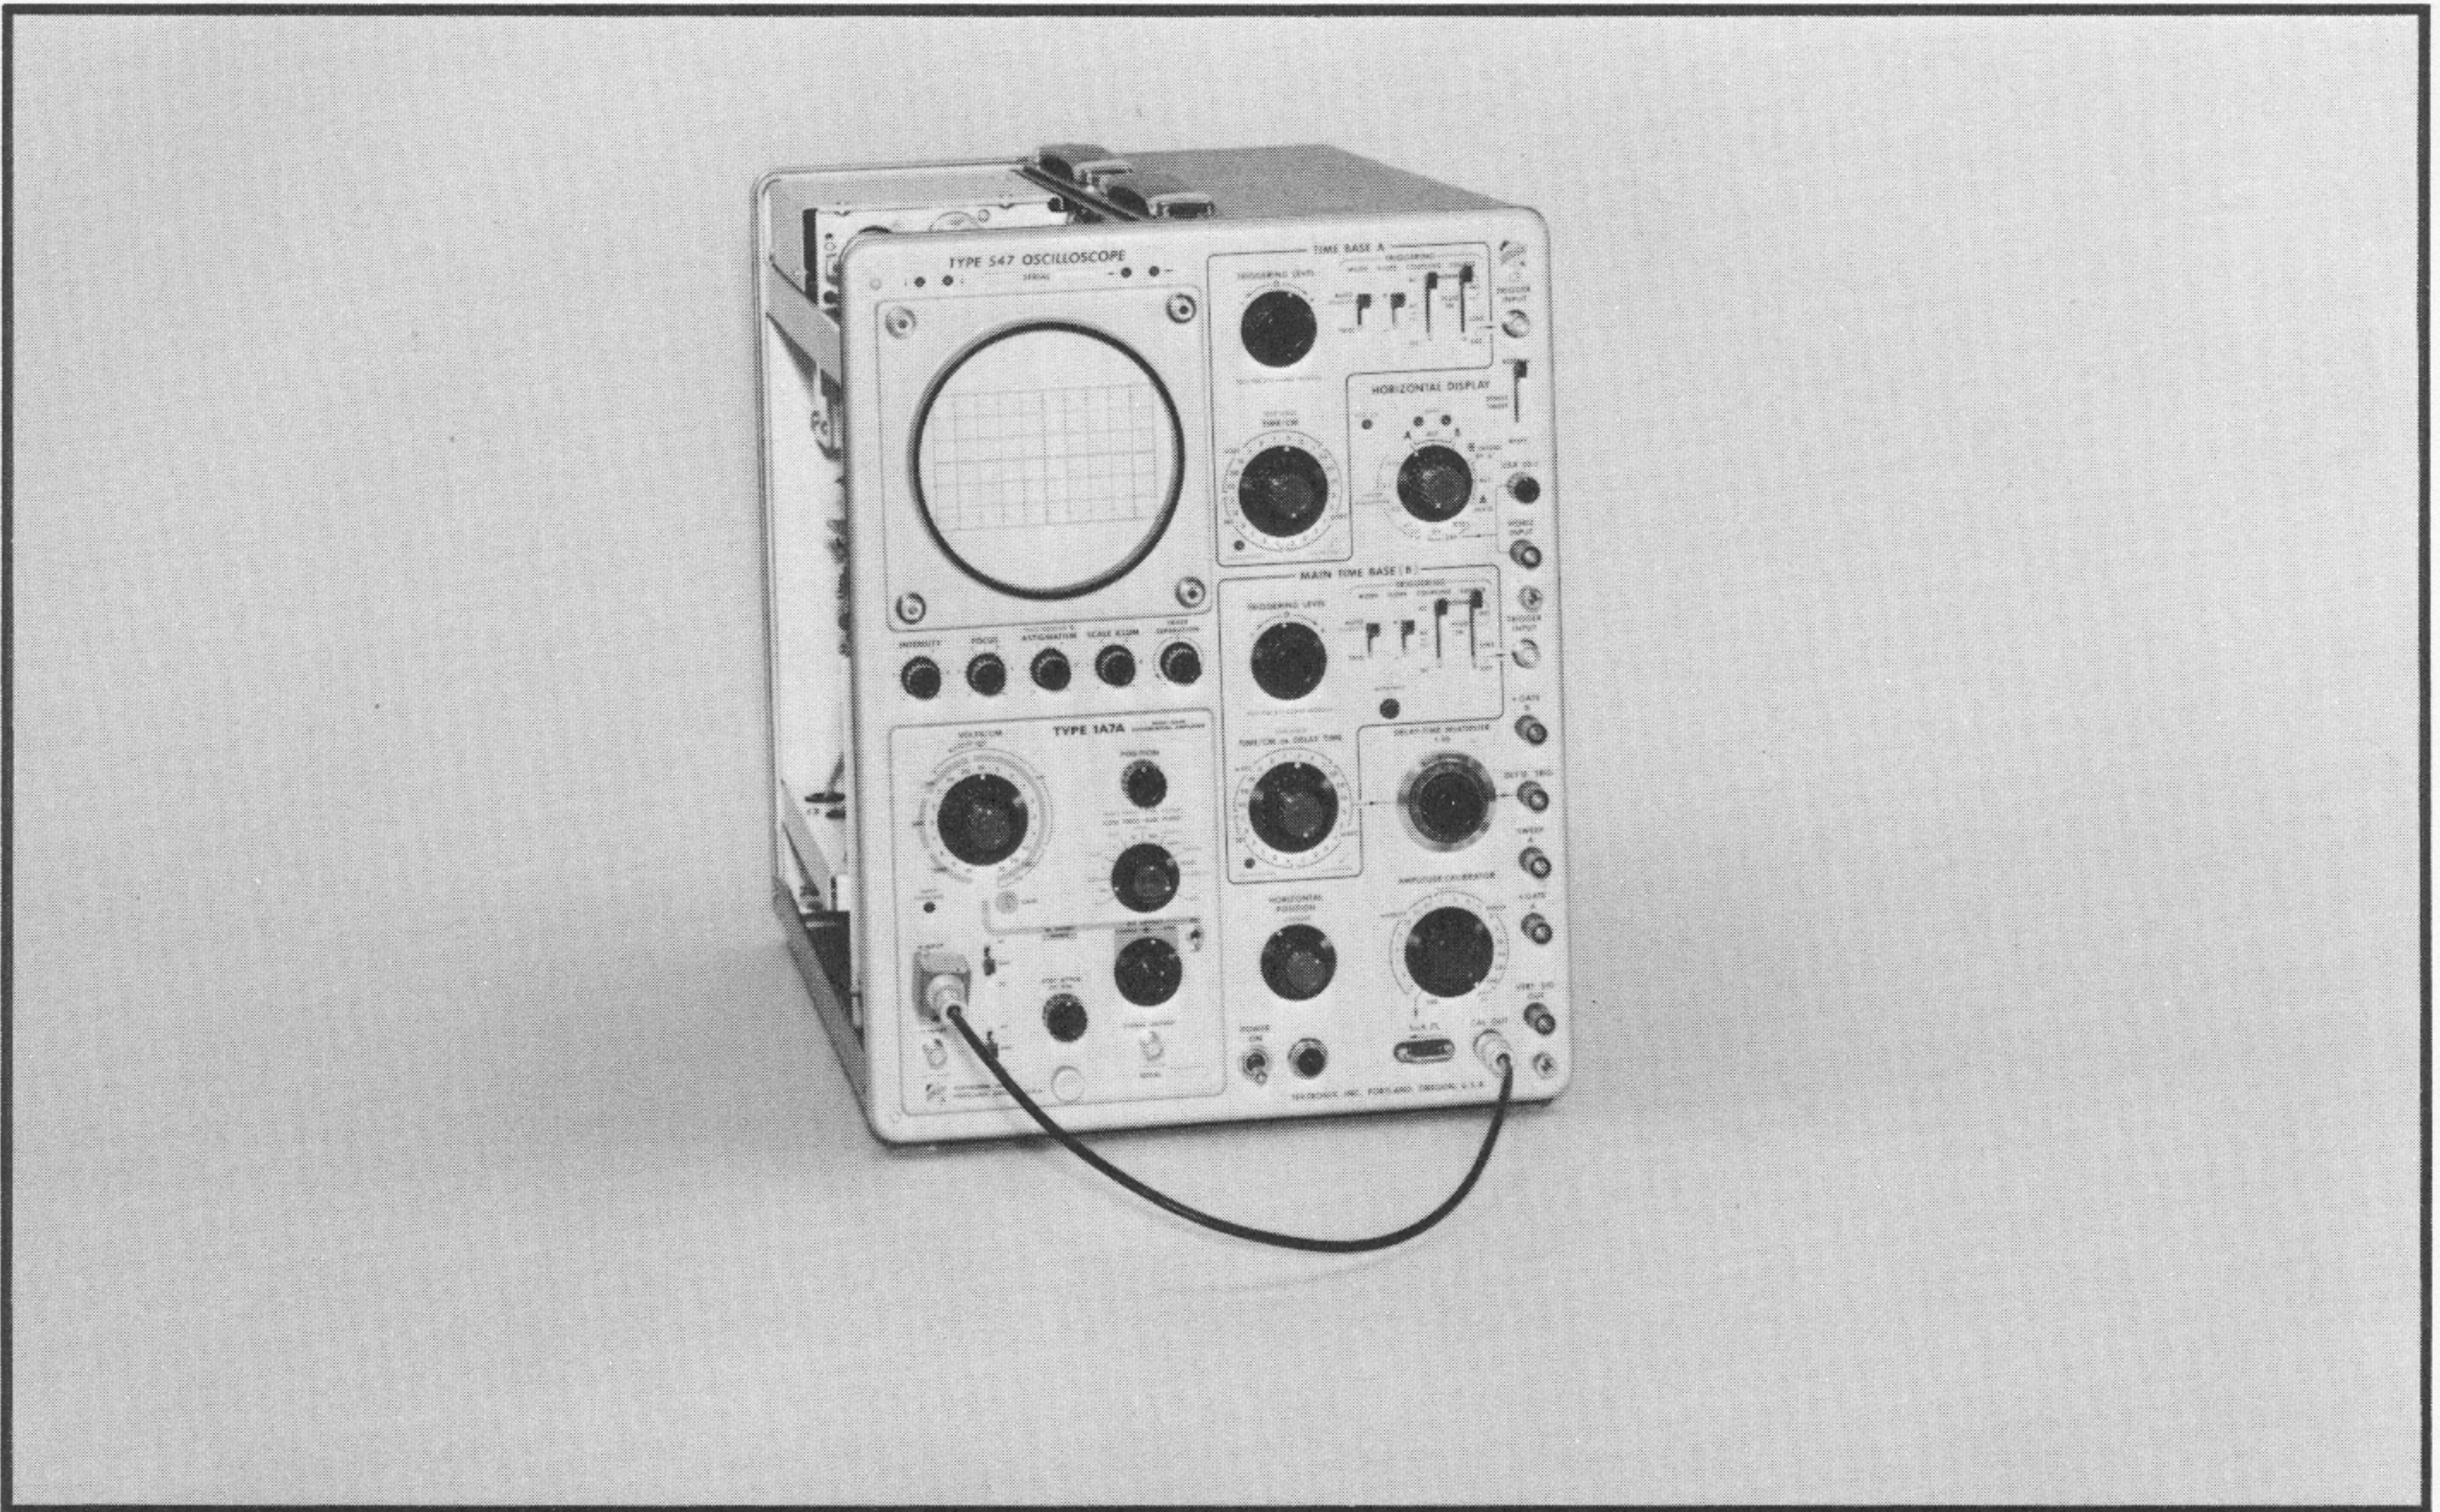

Fig. 5-13. Test equipment setup for steps 12 and 13.
a. Test equipment setup is shown in Fig. 5-13.